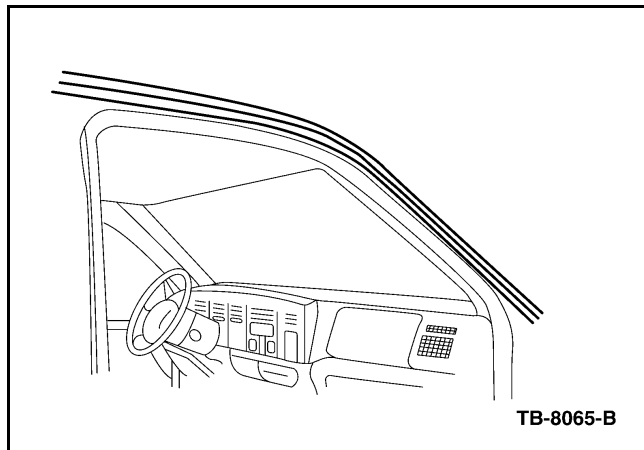

Figure 1 - Article 04-23-9
2. Remove the drip rail weather strip (Figure 1).